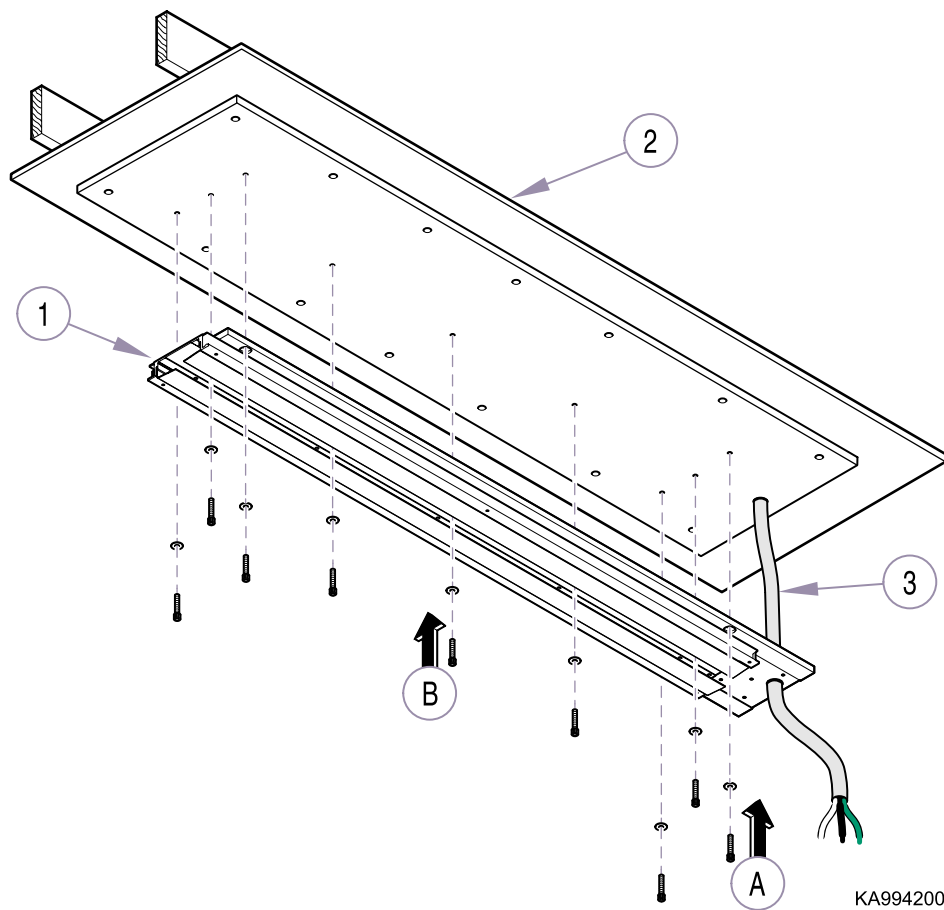

Figure 5. Track Frame Installation
- (1)** Position track assembly (1, Figure 5) on ceiling support structure (2) and secure with four 3-1/2 X 1/4 In. screws (A) or five 3-1/2 X 1/4 In. screws (B) and 1/4 In. oversized fender washers. Shim as necessary to level the track assembly.